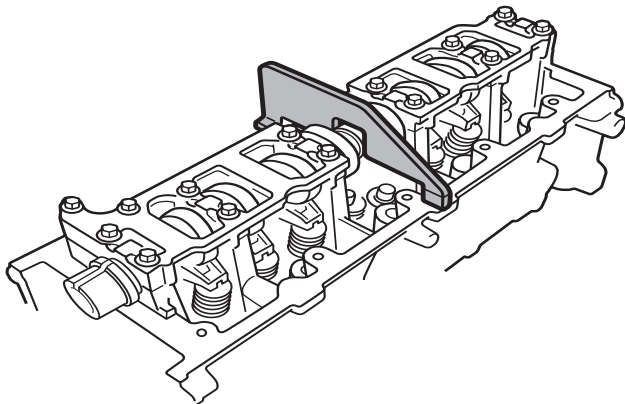

Figure 1
- **1991 4.6L 2V V8** : Refer to Figure 1. Install No. 6009 (511532) on flats of the camshaft to prevent accidental rotation of the camshafts.